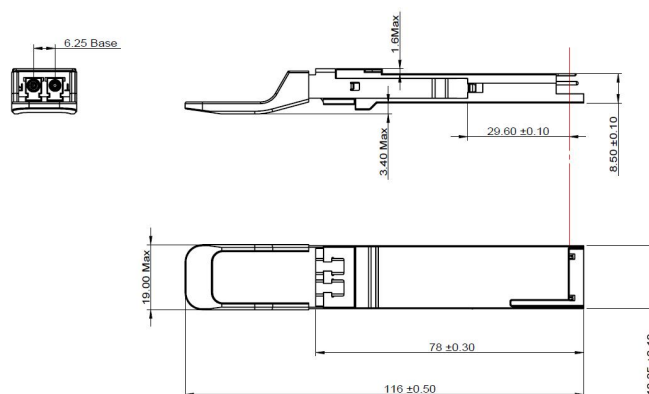

Figure 4 Mechanical Outline
- [6] Receiver sensitivity (OMA_{outer}) (max) is informative and is defined for a transmitter with a value of SECQ up to 3.4 dB. It should meet Equation (1), which is illustrated in Figure 4.